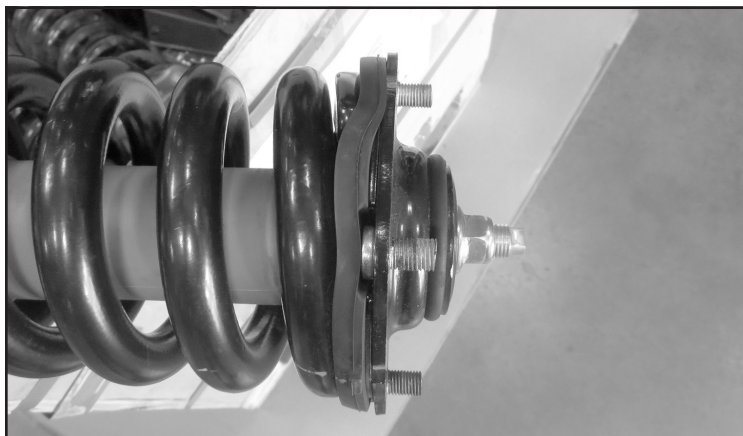

FIGURE 9 - STEP 9
9. Locate the four factory studs on the strut top cap. Measure 3/4" from the base of the stud and mark. The rest of the stud will need to be removed. **SEE FIGURE 9**